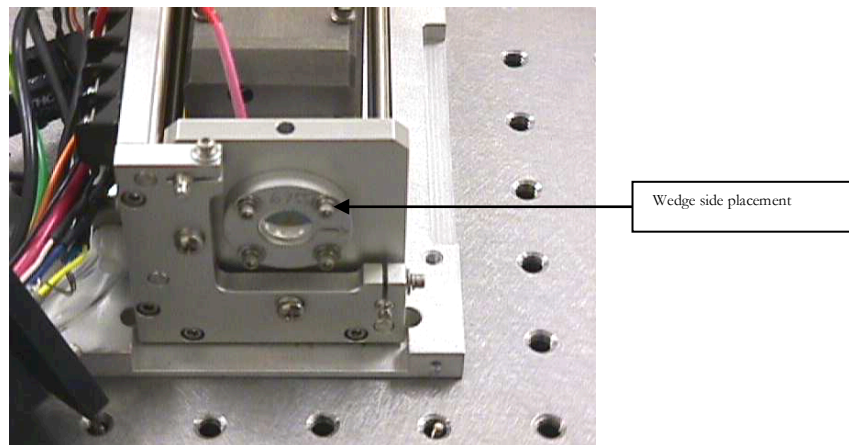

FIGURE 4
- **Affix** with four (4) #2-56 x 3/8 SHD (2825-6685) screws, four (4) #2 split lock washers (2825-8055), and four (4) #2 big OD flat washers (2825-8052).
- **See** Figure 4.